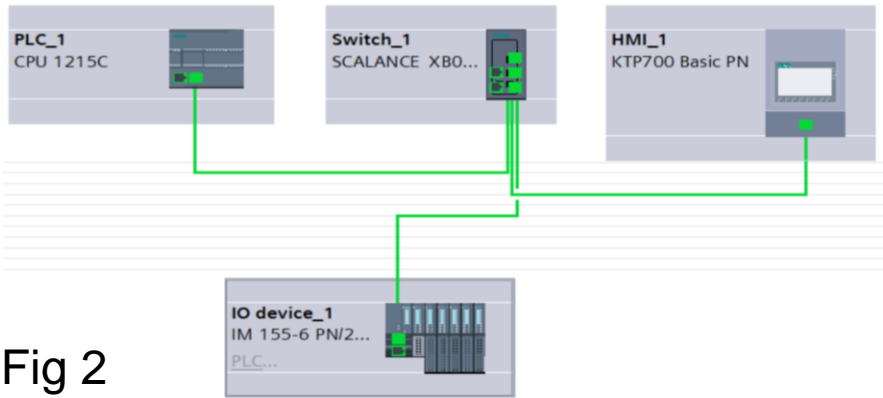

Fig 2
- 3. Step 4: Connect the parts 1, 2, 3 and 4, following the Fig.2